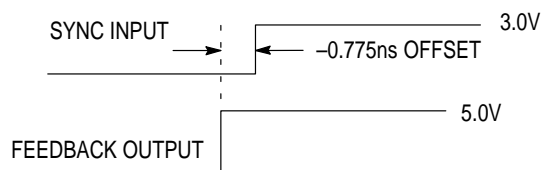

Figure 2. Depiction of the Fixed SYNC to Feedback Offset (t_{PD}) Which is Present When a 470KΩ Resistor is Tied to VCC or Ground
4. A 1 M Ω resistor tied to either Analog V_{CC} or Analog GND as shown in Figure 2 is required to ensure no jitter is present on the MC88915 outputs. This technique causes a phase offset between the SYNC input and the output connected to the FEEDBACK input, measured at the input pins. The t_{PD} spec describes how this offset varies with process, temperature, and voltage. The specs were arrived at by measuring the phase relationship for the 14